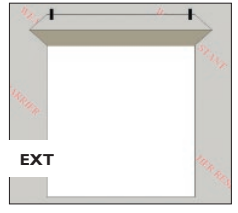

FIG. 4
- From the exterior; cut the top of the WRB as shown to form a flap. (Fig. 4)
- Temporarily tape this top flap up. (Fig. 4)